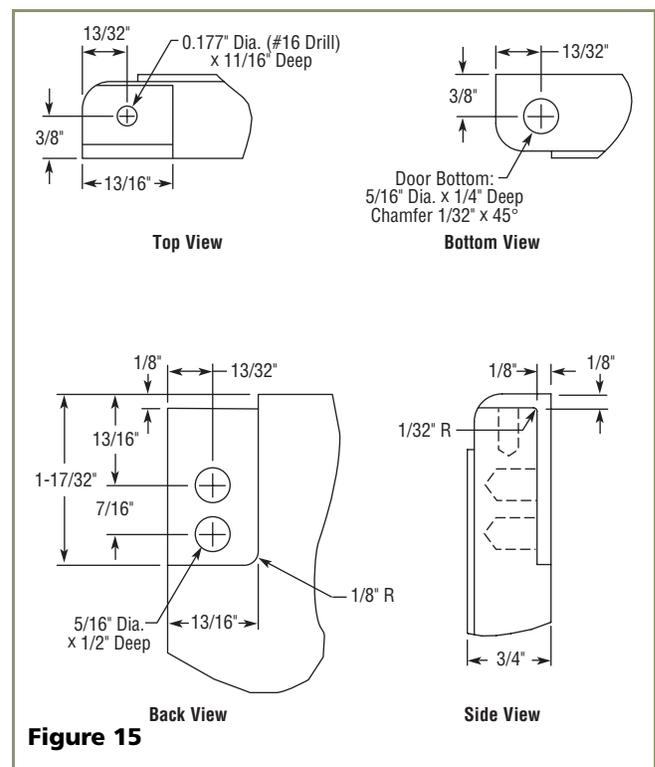

Figure 15
3. Create a relief for pivot plate by cutting notch in top corner and coinciding back corner of overlay frame. Refer to **Figure 15** for exact specifications.
- Drill holes for pivot plate mounts (see **Figure 15**, Back View).
- Drill hole for upper door hinge (top of frame) (see **Figure 15**, Top View).
- Drill hole for lower door hinge (see **Figure 15**, Bottom View).